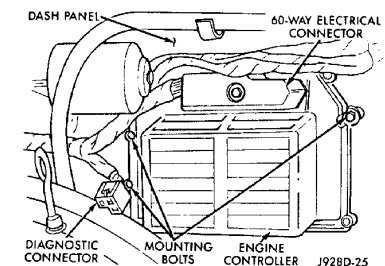

Fig 3
1. Remove the 60 way connector for the wiring harness using an 8mm socket (Fig. 3)
2. Using the same socket, remove the (3) module mounting screws (Fig. 3)